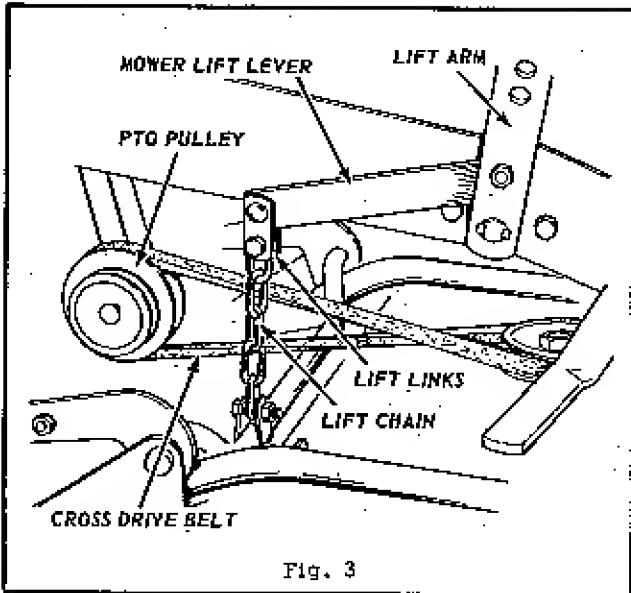

Fig. 3
3. Place the tractor lift lever in its rear position and attach the mower lift lever to the tractor lift arm on right hand side of tractor as shown in figure 3. Use hex capscrew, flatwashers, and hex nut furnished for this purpose.
4. Connect the mower lift chain to the lift lever by fastening the lift links in place with a pin and hair pin cotter as shown in Figure 3.
5. Place the cross drive belt in position on the mower drive pulley. Give the belt a 90° twist towards the left hand side of the tractor and mount belt to larger pulley of power take-off as shown in figure 3. When installed in proper manner, the belt should run from the left side of mower pulley to bottom side of power take-off pulley.